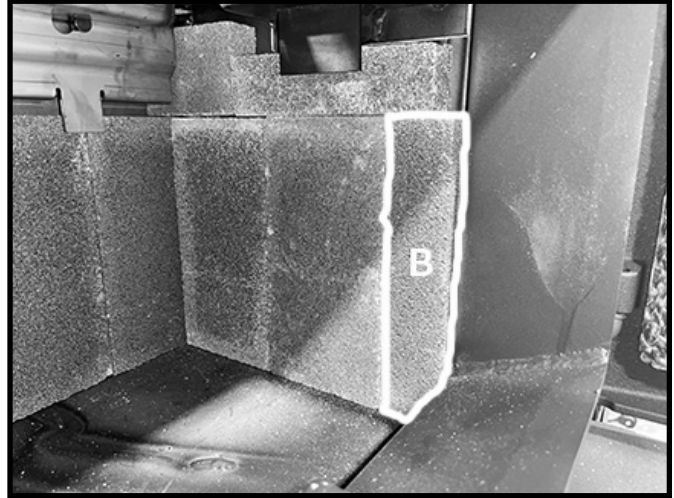

Figure 19. Front side wall firebricks in position.
6. Place a "B" firebrick under the "E" firebrick and against the side wall of the firebox Figure 19.